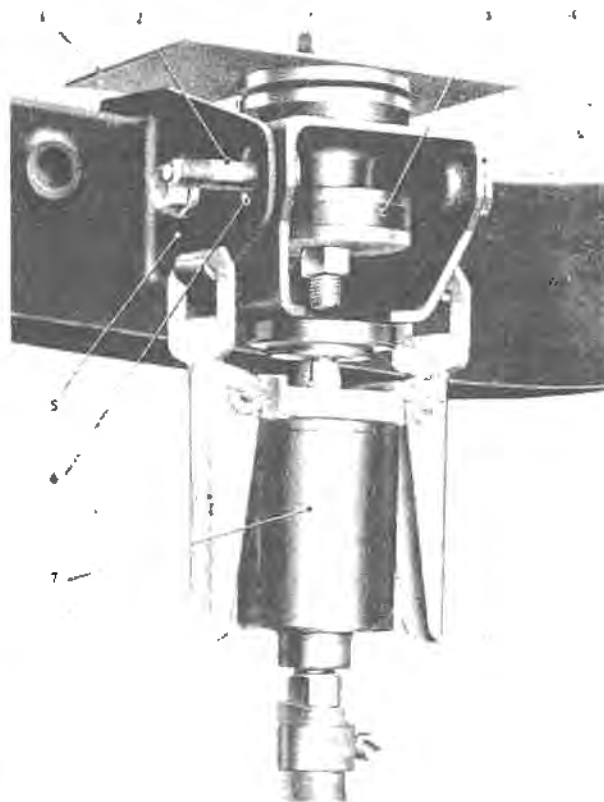

Fig. S.55.—Body mounting ram in position.
In place of the fourth setscrew insert a short stud to serve as an indicator as shown in Figure S.55 item (2).
Assemble the remainder of the side mountings and fit the rams in position under the mountings as shown in Figures S.55 and S.58.
Packing washers should be used between the body and the mounting to position the indicator studs approximately in the centre of the slot in the frame bracket (see Fig. S.55).